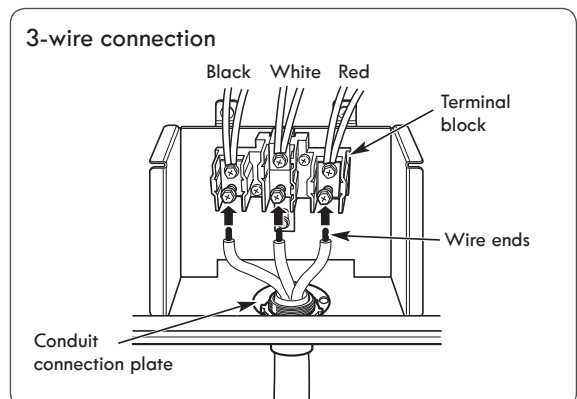

FIGURE 11
- Loosen the lower 3 screws from the terminal block. (Refer to Figure 11.)